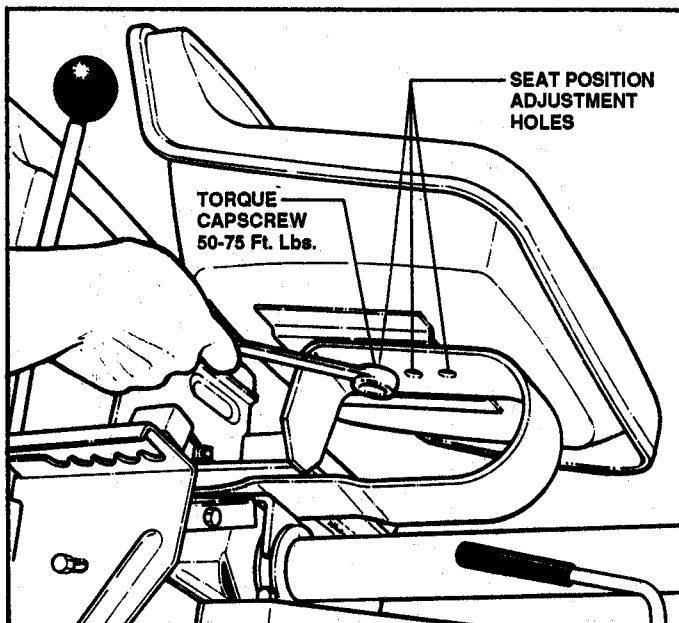

FIGURE 1.8
- C. After repositioning seat, insure that seat retaining capscrew is securely tightened. (50-75 Ft. Lbs. specified). See Figure 1.8.